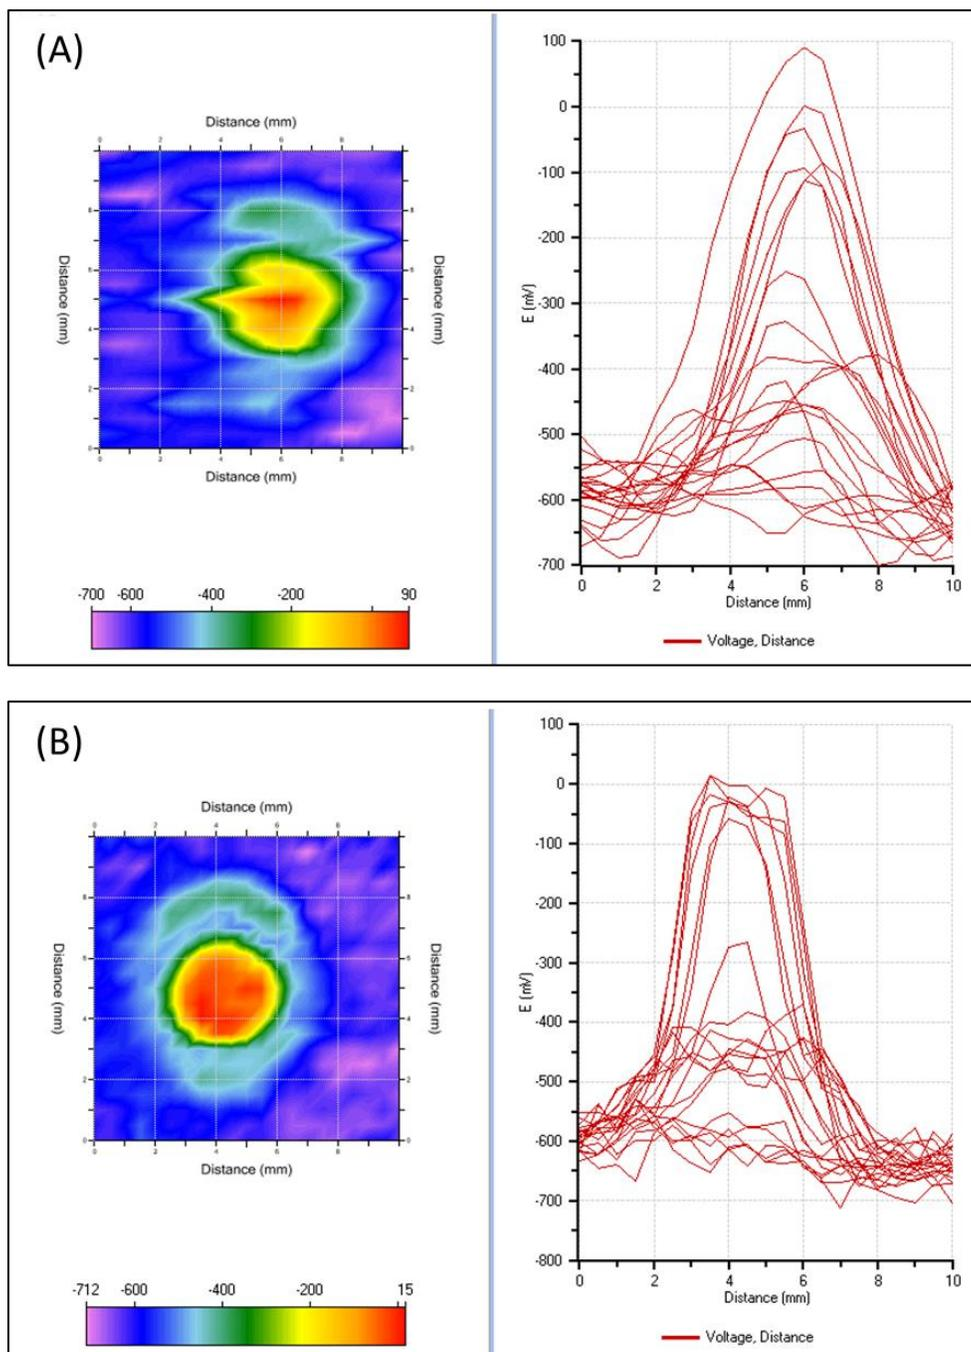

Figure 2: X-Y Area Scans of the SKP test sample using a 1 s TC, the Measure Delay was set to (A) 0.1 s and (B) 3 s.
Figure 2 (A) clearly illustrates that using a 100 ms *Measure Delay* time with a TC of 1 s results in the feature representing the etched region being shifted from its actual position and broadened. Since the probe is scanning from left to right and the delay time is too short, the peak appears further to the right than it should. Figure 2 (B) shows an ideal scenario where the *Measure Delay* was set to 3 TCs or 3 s. The consequence of having too high of an output with a large time constant is that the experiment duration can be extremely long since the *Speed (measuring)* must be much lower.